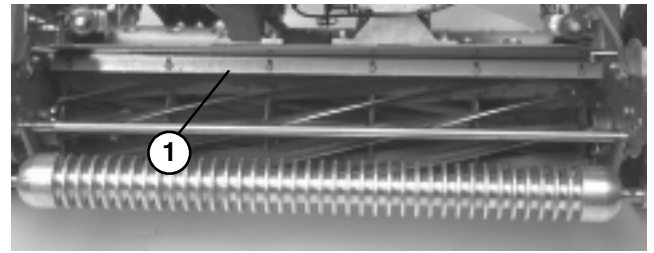

Figure 16
1. Loosen screws securing top bar (Fig. 16) to cutting unit. Insert .060 inch feeler gauge between top of reel and bar and tighten screws. Assure bar and reel are equal distance apart across complete reel.